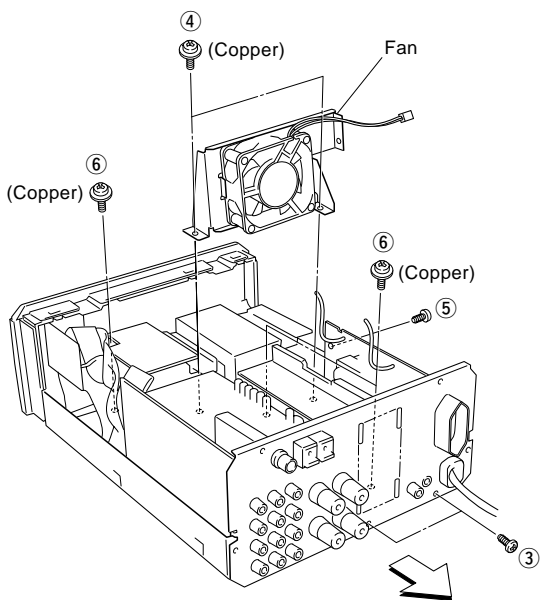

Fig. 2
b. Remove 2 screws (③) attaching the rear panel to the chassis. (Fig. 2)
d. Remove 3 screws (④, ⑤) attaching the fan to the chassis and then remove the fan. (Fig. 2)
e. Remove 3 screws (⑥) attaching the Main P.C.B. to the Heat Sink. (Fig. 2)
g. Move the Amp Unit toward the rear. (Fig. 2)